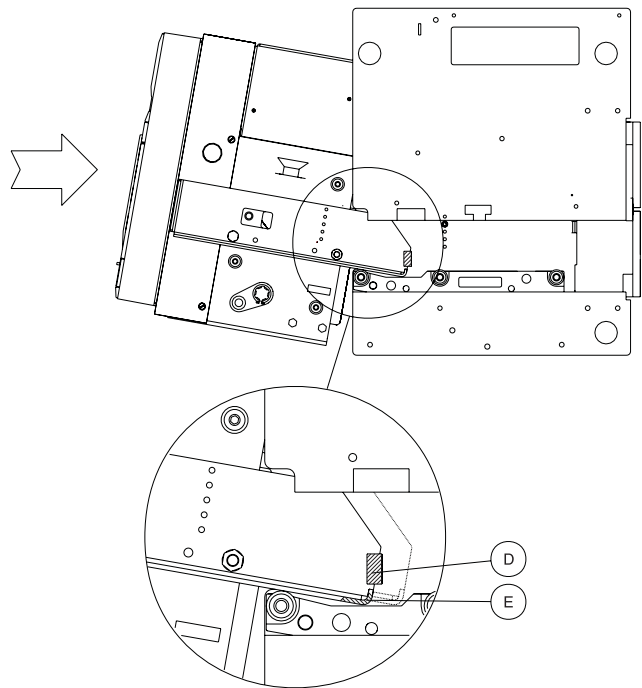

Figure 28.
Lift the moving part as shown in the paragraph (3) and insert it in the fixed part guide, tilting it as shown in Figure 28.